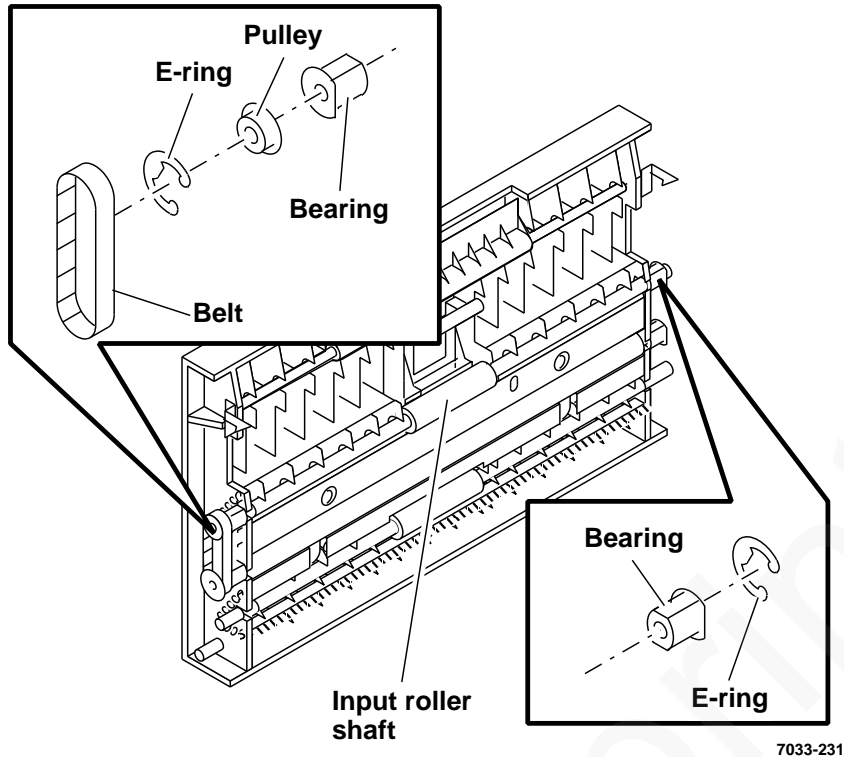
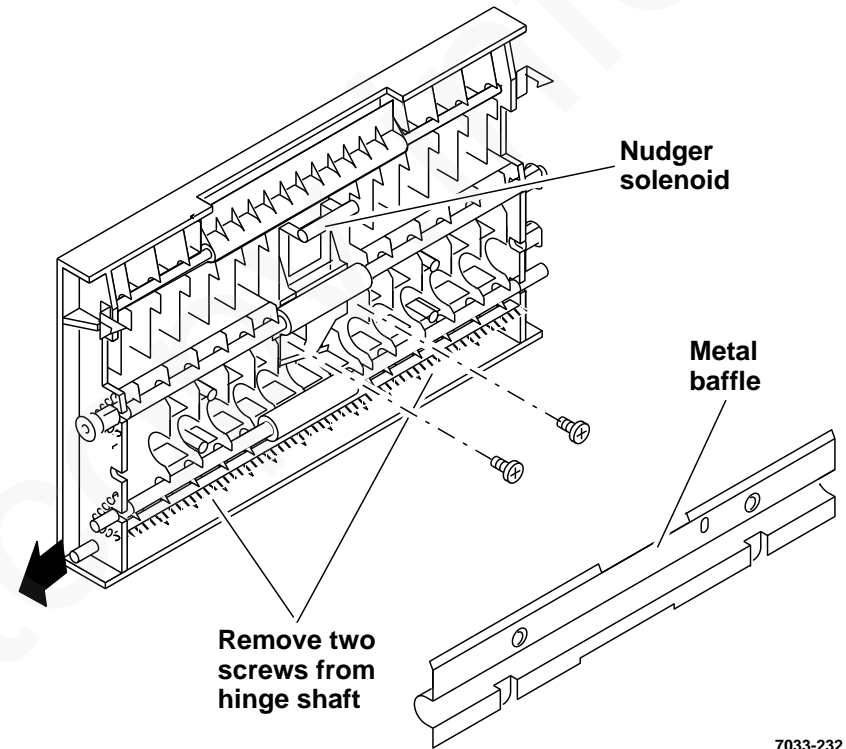

Figure 6. Input idler shaft removal
Figure 7. Nudger solenoid removal
- c. Remove input idler shaft belt (Figure 6).
- d. Remove E-ring, pulley, and bearing from front end of input idler roller shaft (Figure 6).
- a. Remove (4) screws from metal baffle and set aside.
- b. Remove two screws securing hinge shaft to upper scanner assembly (Figure 7), then slide shaft out.